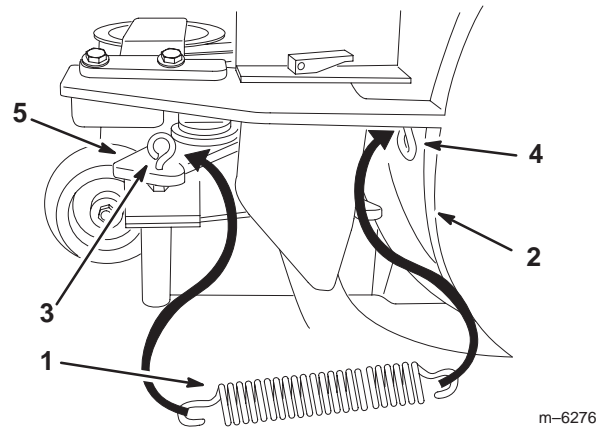

Figure 11
4. Slide the spring into the blower eye bolt (Fig. 11).
5. Install the spring into the idler arm eye bolt (Fig. 11).